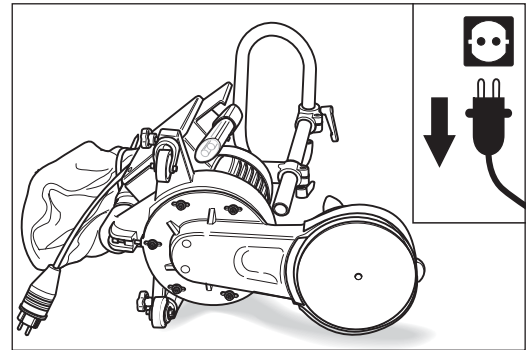

Fig. 55 Place the UNICO down on the **left-hand** side only.
**Always** set the UNICO down on the **left-hand** side (Fig. 55)! This will prevent damage to the floor, and the shape of the fan housing also stops any dust falling back out of the dust bag from getting into the fan housing.